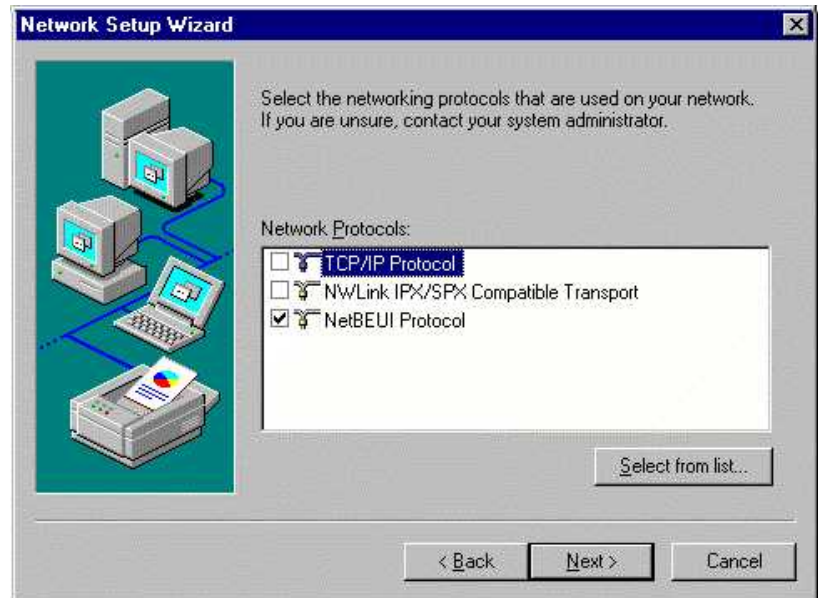

Fig. 8-21
- In the "Network Setup Wizard" dialog box, select the "NetBEUIProtocol" and confirm with "Next" (Fig. 8-21).